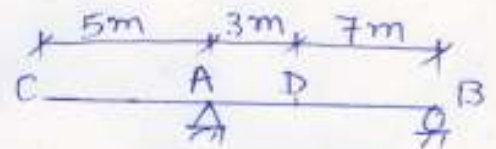

Figure-3
- (b) For the beam as shown in **figure -3**, construct the influence lines for (I) the shear at the cross section to the left of A, (II) the shear at D, (III) the bending moment at A and (IV) the bending moment at D. **07**